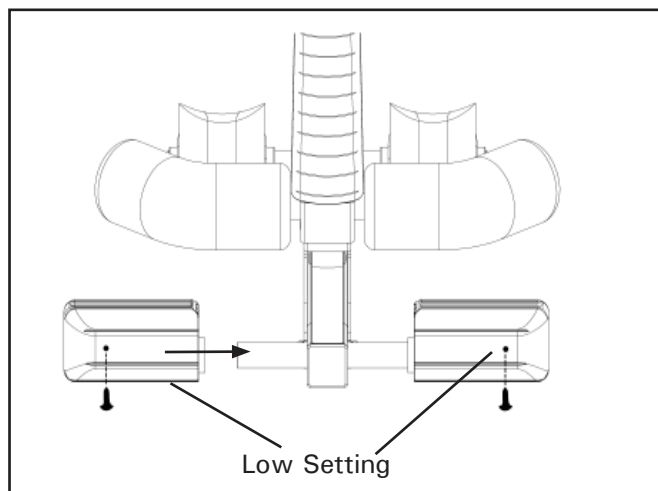

Figure 19
- Slide the Foot Piece onto the Bar (Figure 19).
- Insert the screws (IA-1123) onto the Foot Platform and tighten with the screw driver (F5-1130) (Figure 19).